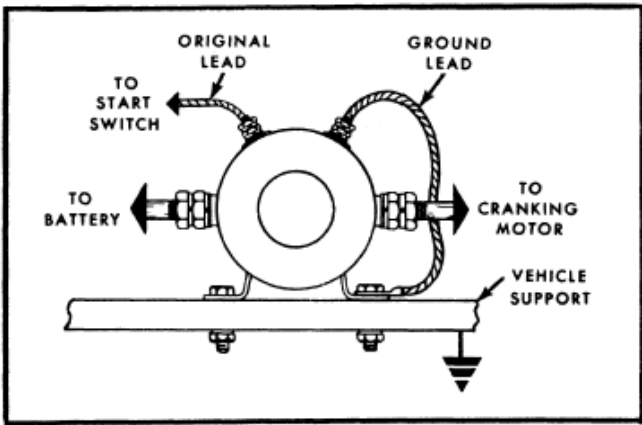

Figure 2
2. Insure that the switch (relay) base is well grounded. If the switch (relay) has two small terminals, one small terminal must also be grounded. See Figure 2.